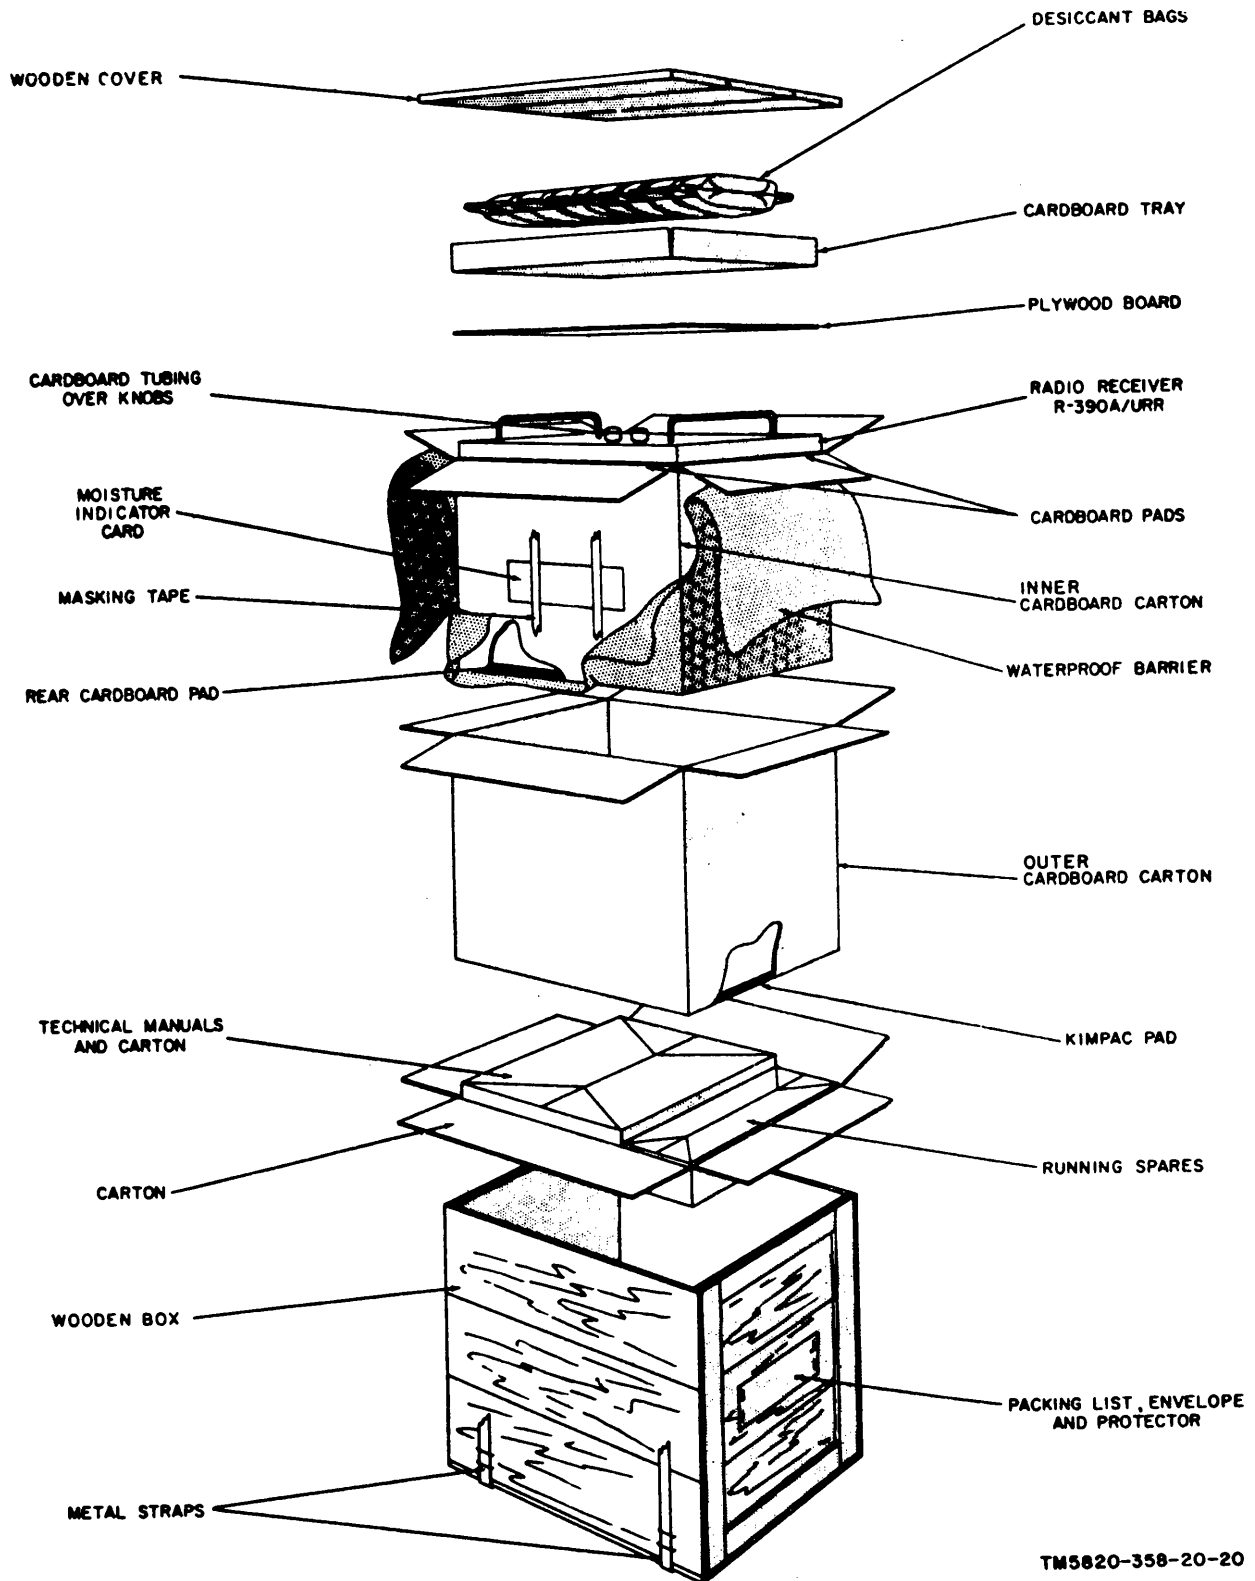

Figure 1. Packaging.
a. Packaging Data. When packed for shipment, the components of the receiver are placed in a water-vaporproof container and packed in a wooden box. An exploded view of the wooden box and its contents is shown in figure 1. The dimensions of the box are approximately 24 1/4 inches high, 20 1/2 inches wide, and 14 3/4 inches deep. The packed box weighs approximately .100 pounds, with a volume of 3.9 cubic feet.